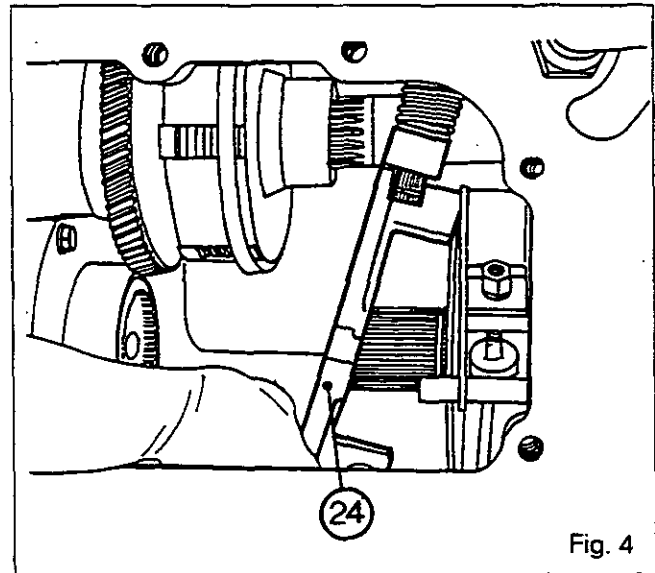

Fig. 4
22. Remove the closing plate (24) and the control shaft (20).
Note: Keep the mechanism (31) and the brake discs (30) towards the rear. Withdraw the closing plate (24) (Fig. 4), inclining it in order to disengage it from the dowel (18), the finger (23) and the bevel drive pinion (26) and to release the shaft (20) from the housing.
23. Remove the spring (17) and the washer (22).
24. Remove the retainer ring (21) (if necessary) on the control shaft (20).
25. Remove the discs (30) and the mechanism (31).